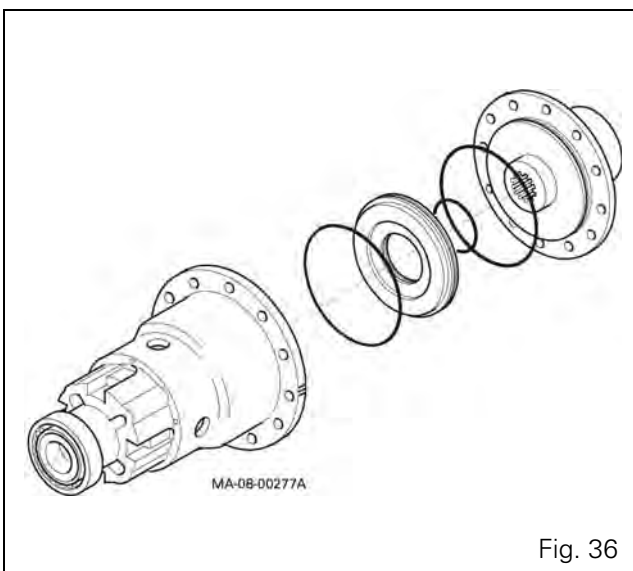

Fig. 36
42. Fit new "O" rings in the seatings provided on the piston and on the differential cover plate. Insert the piston and fit the cover plate in the differential housing (Fig. 36).